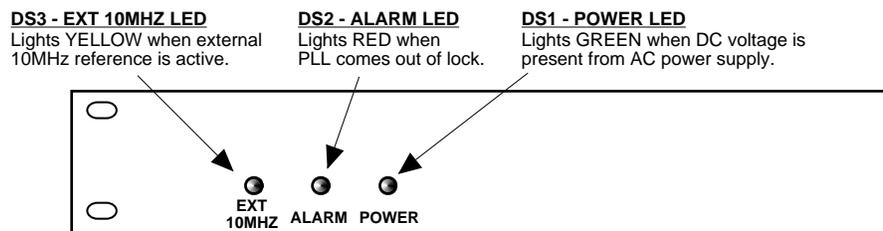

FIGURE 2.2 2116-78#-1100 Front Panel Controls and Indicators
- 4.) Be sure DS1 (green, DC Power) is on and DS2 (red, Alarm) is off (Figure 2.2).
- 6.) If EXT is selected or AUTO is selected and there is a 10MHz, 0 dBm signal at J2, check that DS3 (yellow, EXT 10MHZ) is on (Figure 2.2).